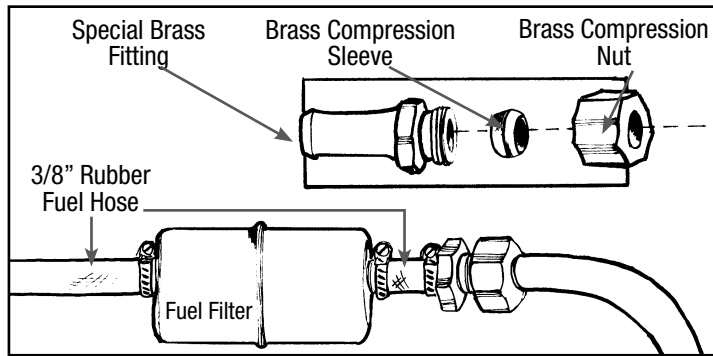

Fig. 8 - Fuel Line Kit Installed on Stock Steel Line
- Install the Edelbrock special brass hose fitting over the OEM steel fuel line (See Fig. 8) and securely tighten using the compression unit. Use tubing wrenches to avoid rounding the hex nut.